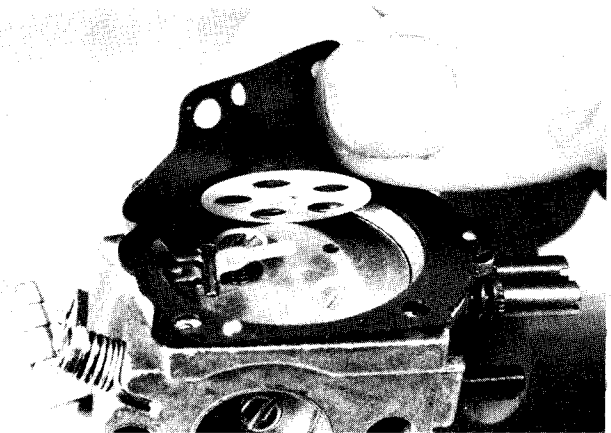

Fig. 54 — Removing/Installing Metering Diaphragm
4. Remove metering diaphragm and gasket, Fig. 54.
5. Position metering diaphragm and gasket over lever, Fig. 54, and install cover.